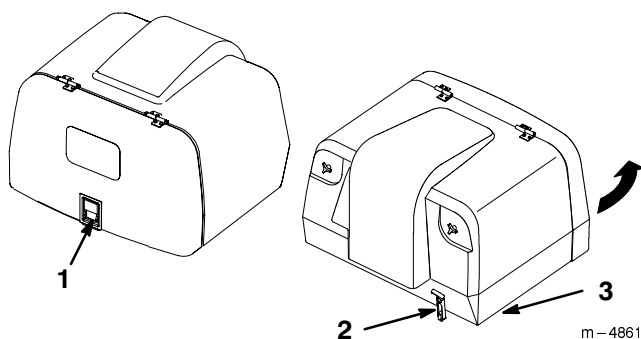

Figure 22
3. Unhook the rear door latch (Fig. 22).
4. Unhook the front latch on hopper (Fig. 22).
5. Lift up on the hopper in the lower front and dump the clippings (Fig. 22).
6. Lower the hopper. Firmly secure the hopper door so it latches and secure the front hopper latch (Fig. 22).